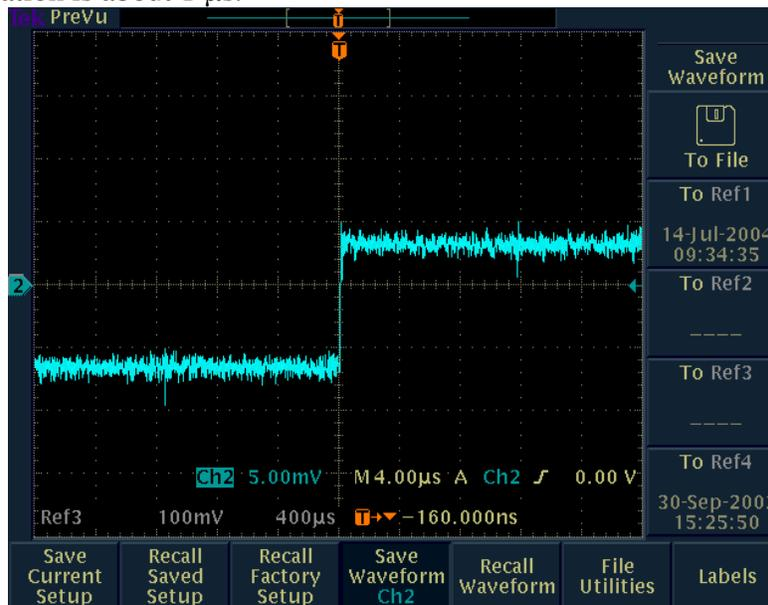

Figure 8. Oscilloscope trace of preamplifier output step pulse, including noise. The height of the step is proportional to the x-ray energy.
The output signal from the preamplifier is a step wave function with its height proportional to the energy of the incident photon ( $\sim 1.5$  mV per 1 keV photon energy), as is shown in Figure 8. The mV/keV ratio can be modified per the customer's request, if required. With an x-ray source applied, the preamplifier output signal consists of positive steps superimposed on an irregularly spaced ramp of positive slope, as is shown in Figure 8. The negative reset duration is about  $1 \mu\text{s}$ .
If the preamplifier does not ramp up (as shown in Figure 8), but stays at  $\sim 0$  V or  $< 0$  V, check the electronics box cable connections to the preamplifiers. If the cable is connected properly, but still the preamplifier does not ramp up in voltage, then the FET or preamplifier may be defective. If this is the case, contact SNTUS to return the system for repair.
**Make sure the window is covered and not exposed to light!** If the preamplifier output is still positive, and is not resetting, as shown in Figure 8, check all the cable connections to ensure proper connection and proper bias conditions. If the cables are connected properly, but still the preamplifier output stays positive, then the detector or FET, and/or the preamplifier, may be defective. If this is the case, contact SNTUS to return the system for repair.